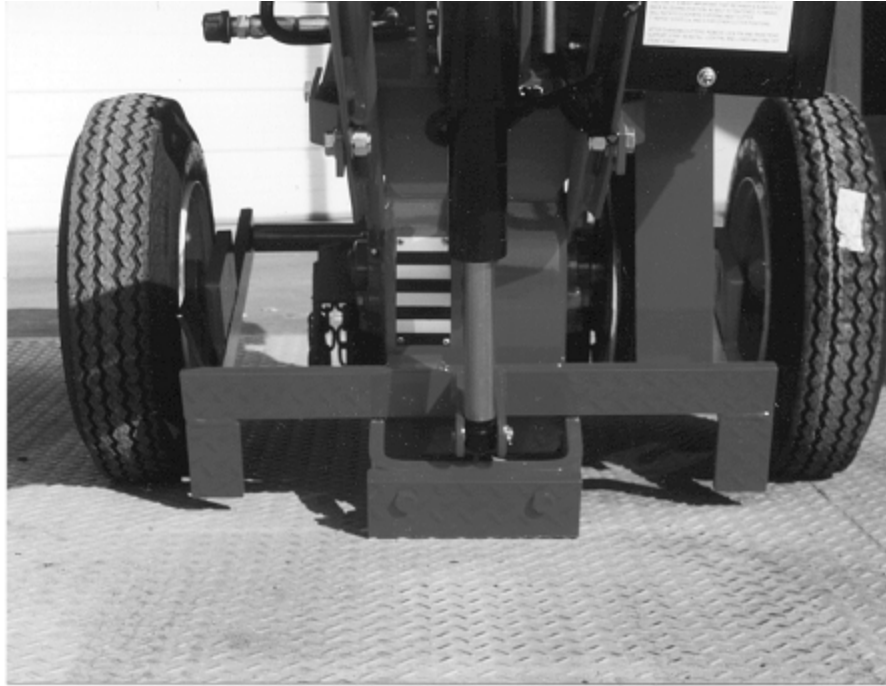

FIGURE 1
2. Engage electric clutch by pulling upon “T” handle. Lower cutter head until cutters slightly touch the surface. Notice shade on the depth indicator (Figure 1). Each shade represents approximately 1/4 inch depth variation.
A stabilizer mechanism (See Figure 1) is used on the Crafcro Pavement Cutter to improve the stability of the machine and to act as a brake. **TO SLOW OR STOP THE MACHINE, SIMPLY PUSH DOWN ON THE HANDLE.** For normal operation, let wear plate drag on paved surface while machine is in operation.